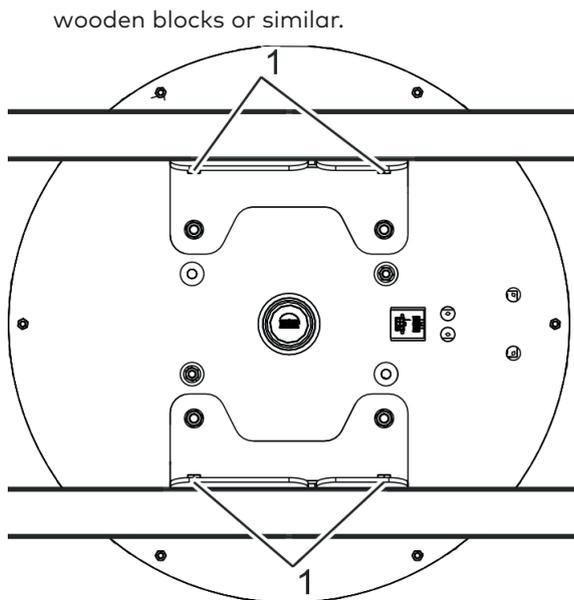

Fig. 105 Operator
20. Loosen operator mounting screws (Fig. 105/1) slightly and lower operator onto flange of upper cross fitting.
23. Tighten the operator mounting screws (Fig. 105/1).